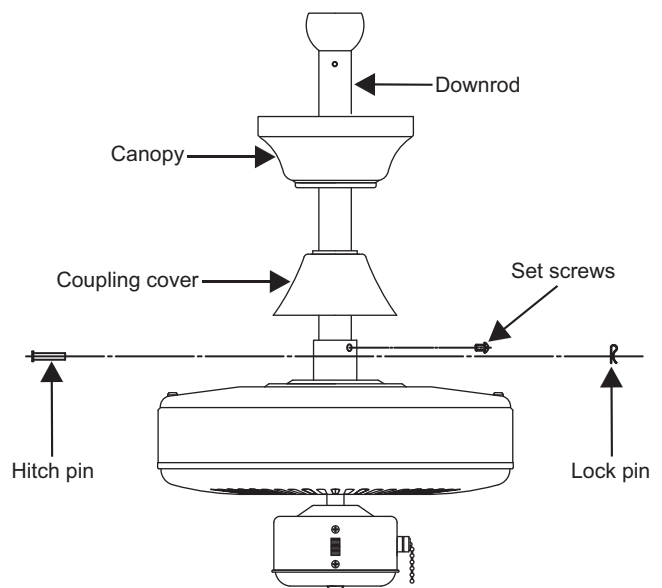

Figure 6
Step 4. Route wires exiting from the top of the fan motor through the coupling cover, canopy and then through the ball/downrod. (Fig. 6)
Step 5. Align the holes at the bottom of the downrod with the holes in the collar on top of the motor housing (Fig.6). Carefully insert the hitch pin through the holes in the collar and downrod. Be careful not to jam the pin against the wiring inside the downrod. Insert the locking pin through the hole near the end of the hitch pin until it snaps into its locked position, as noted in the circle inset of Fig. 6.
Step 6. Tighten two set screws on top of the fan motor firmly. (Fig. 6)